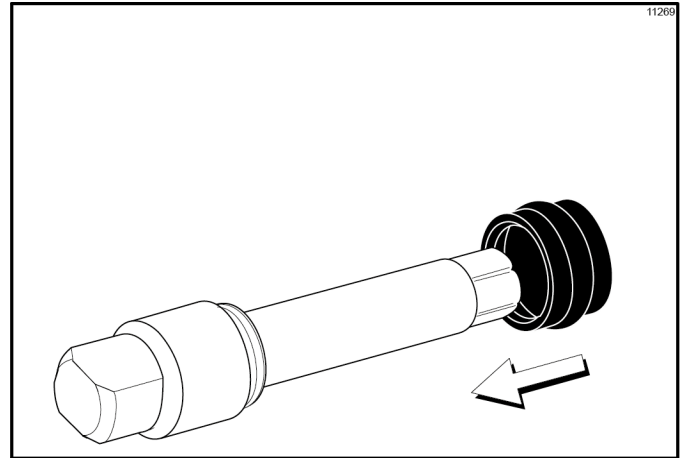

Figure 6-2
2. Slide the beater driveshaft seal over the small end of the beater driveshaft and engage into the groove on the shaft. (See Figure 6-2.)